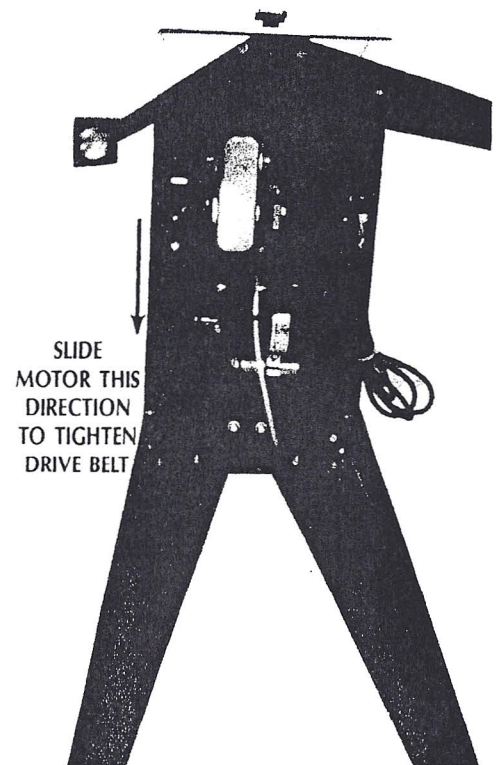

FIG. 16
2. Slide the motor back until the belt is properly tensioned. (Fig. 16)